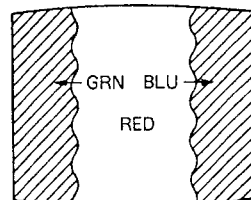

Fig. 3.
4. Move the deflection yoke backward, and adjust with the purity control so that red is in the center and blue and green are at the sides, evenly. (Fig. 3.)